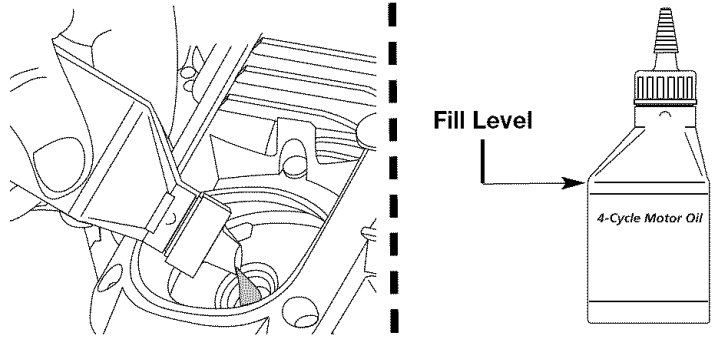

Fig. 23
6. If the oil level is not touching the innermost thread on the oil fill hole, add a small amount of oil to the oil fill hole and recheck (Fig. 23). Repeat this procedure until the oil level reaches the innermost thread on the oil fill hole.
NOTE: Use the bottle and spout saved from initial use to measure the correct amount of oil. The top of the label on the bottle measures approximately 3.04 ounces (90 ml or 3/8 cup) (Fig. 23). Check the level; See Checking the Oil Level. If the level is low, add a small amount of oil and recheck. Do not overfill (Fig. 23).